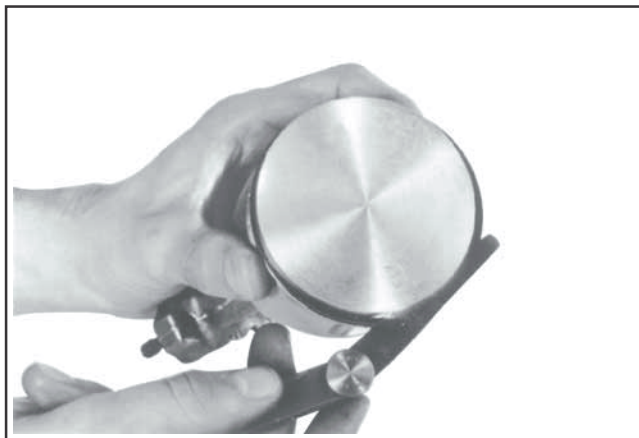

Figure 9-10. Measuring Piston Ring Side Clearance.
5. After installing the new compression (top and middle) rings on the piston, check the piston-to-ring side clearance. Compare the clearance to specifications listed in Section 1. If the side clearance is greater than specified, a new piston **must** be used. Refer to Figure 9-10.